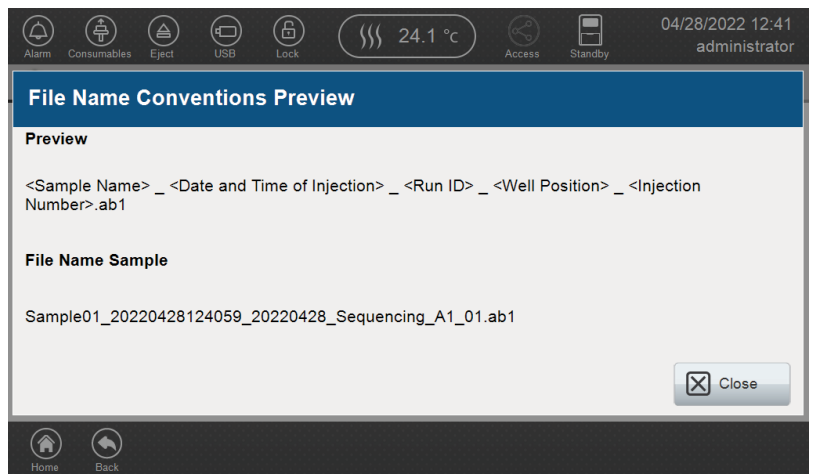

Figure 174. 'Preview' screen.
9. An example of the 'Preview' screen is shown in Figure 174.